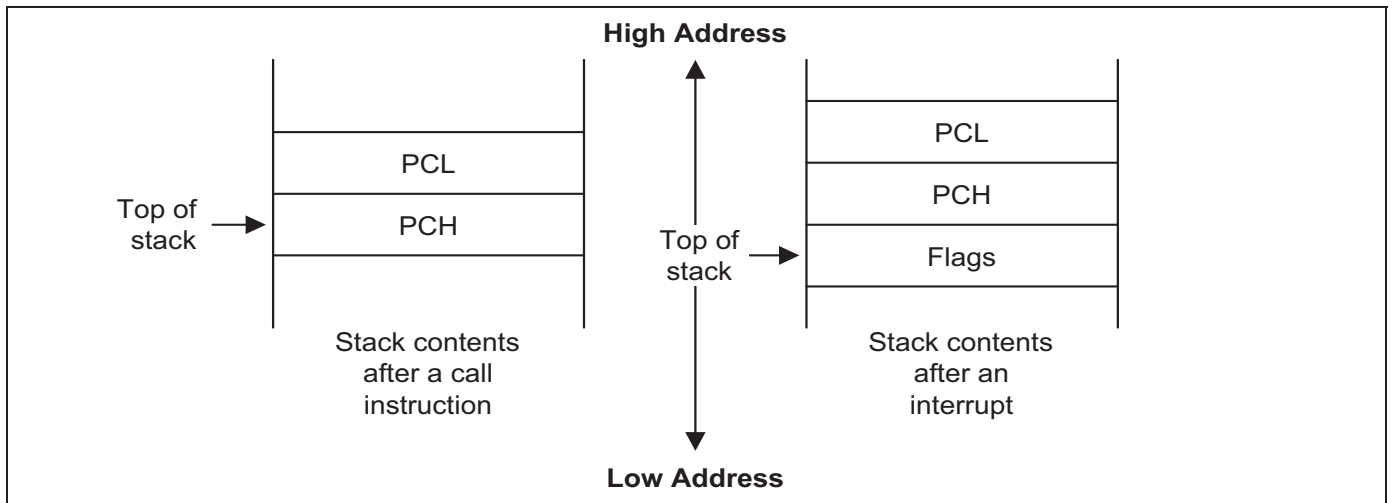

Figure 2-16 Stack Operations
Return addresses for procedure calls, interrupts, and data are stored on the stack. The contents of the PC are saved to stack by a CALL instruction and restored by the RET instruction. When an interrupt occurs, the contents of the PC and FLAGS registers are pushed to the stack. The IRET instruction then pops these values back to their original locations. The stack address value is always decreased by one before a push operation and increased by one after a pop operation. The stack pointer (SP) always points to the stack frame stored on the top of stack, as shown in Figure 2-16.